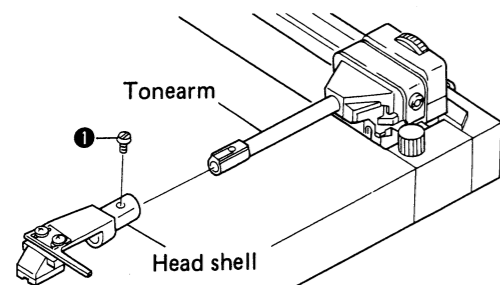

Fig. 3-2 Remove the head shell
1. Undo screw ❶ in the tonearm, and remove the head shell (Fig. 3-2).